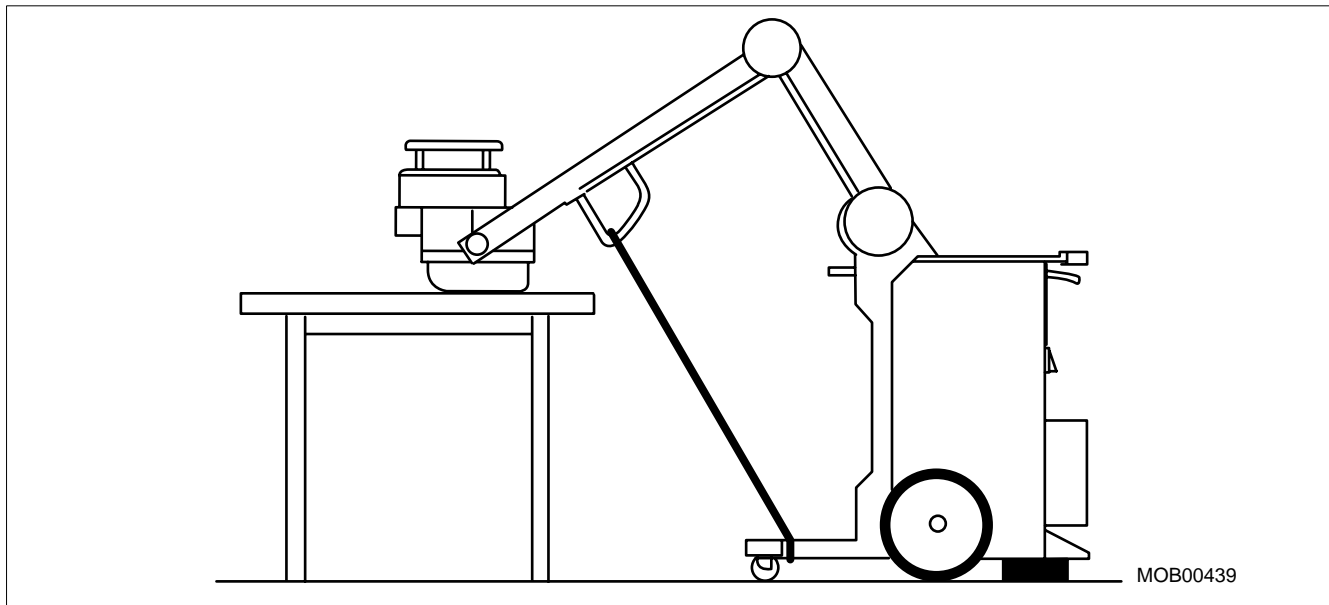

Fig. 15
- Position the unit with the single tank resting on a table (Fig. 15).